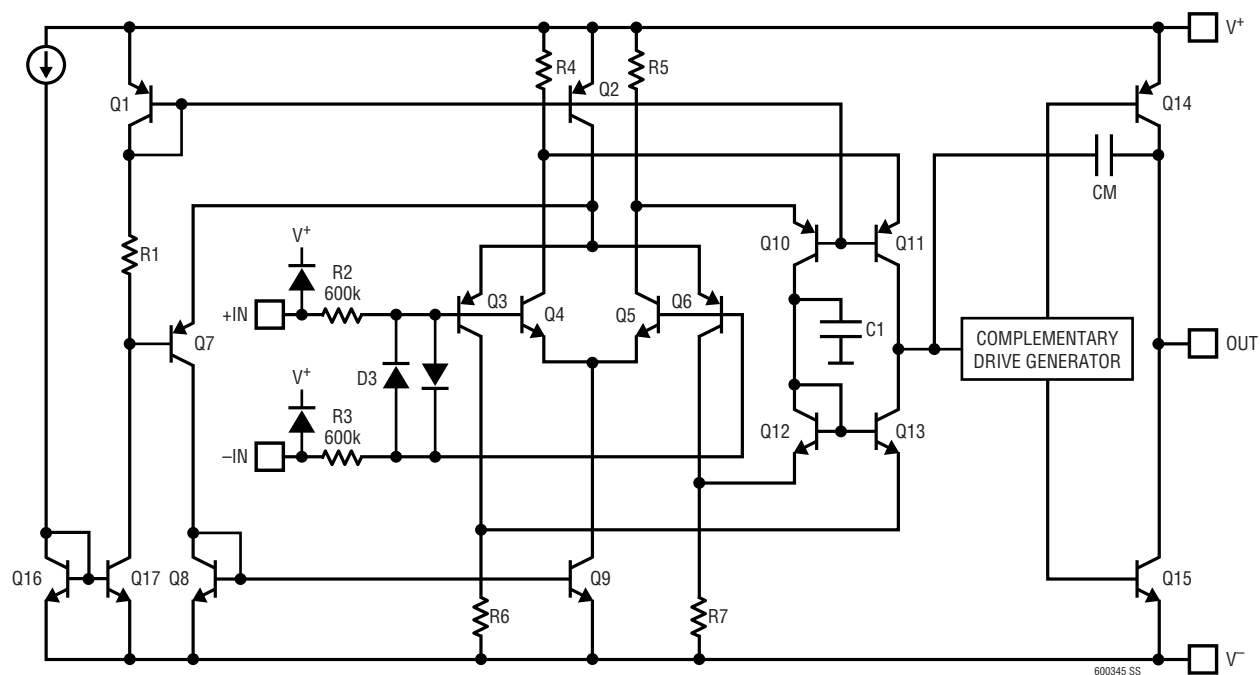

Figure 1
The LT6003/LT6004/LT6005 are fully functional for an input signal range from the negative supply to the positive supply. Figure 1 shows a simplified schematic of the amplifier. The input stage consists of two differential amplifiers, a PNP stage Q3/Q6 and an NPN stage Q4/Q5 that are active over different ranges of the input common mode voltage. The PNP stage is active for common mode voltages, V_{CM} , between the negative supply to approximately 0.9V below the positive supply. As V_{CM} moves closer towards the positive supply, the transistor Q7 will steer Q2's tail current to the current mirror Q8/Q9, activating the NPN differential pair. The PNP pair becomes inactive for the rest of the input common mode voltage range up to the positive supply.
Figure 1 illustrates the recommended solder pad pitch and dimensions for the component. The top view shows a square component with a side length of 3.00 ± 0.10 (4 SIDES). A PIN 1 TOP MARK (NOTE 6) is indicated by a circle. The bottom view shows the exposed pad with dimensions: $R = 0.115$ TYP, 0.38 ± 0.10 , 1.65 ± 0.10 (2 SIDES), 0.25 ± 0.05 , 0.200 REF, 0.75 ± 0.05 , $0.00 - 0.05$, 2.38 ± 0.10 (2 SIDES), 0.50 BSC, and 4, 8, 1. A note (C) DFN 1203 is also present.